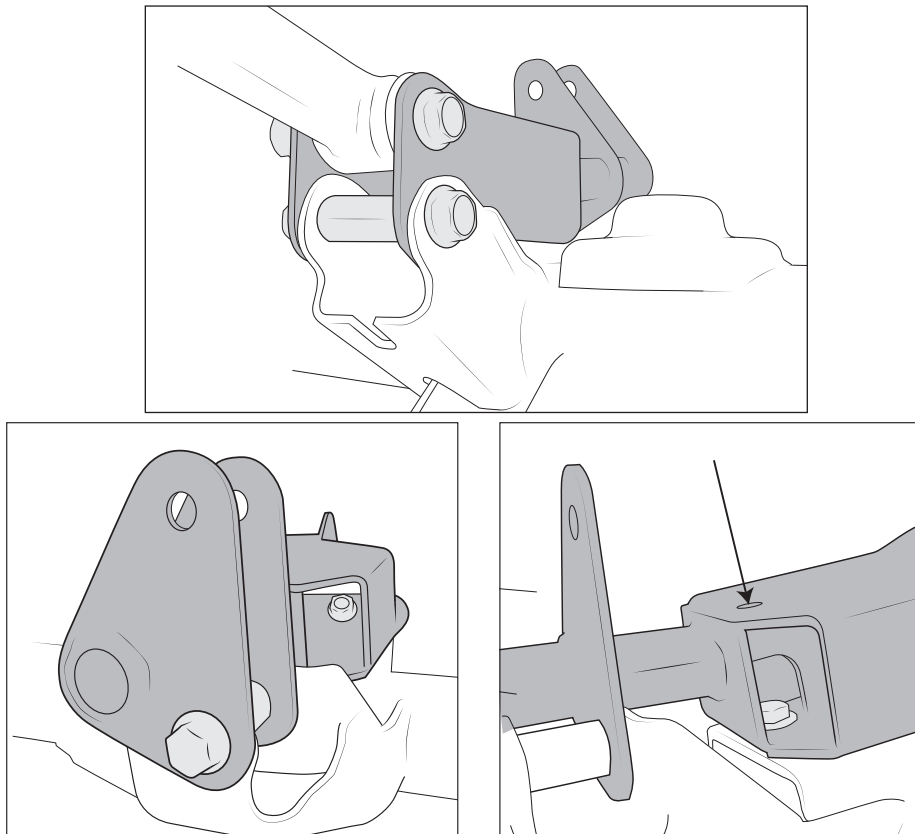

Figure 26
- Use provided M14 nut and bolt along with short sleeve spacer at factory track bar location with new bracket. Torque to 150 ft-lb. (fig. 26). To tighten bolts inside bumpstop spacers, place socket on bolt head from inside, then feed 3/8" extension through access hole in top of brackets.